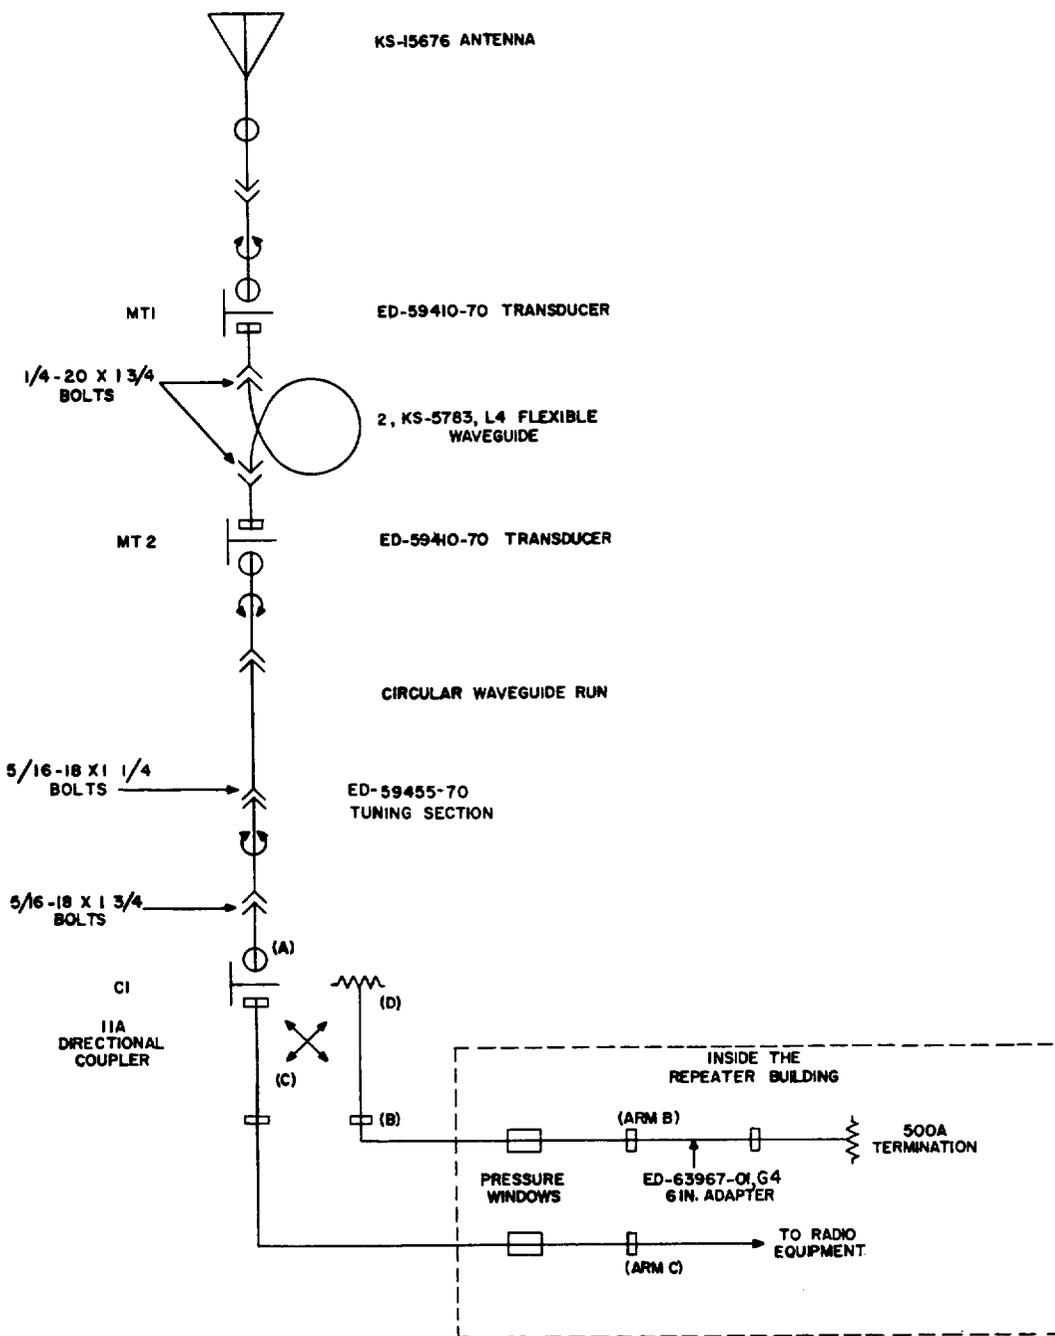

Fig. 1 - Waveguide Setup for Aligning Antennas Used with 2-Polarity Transmission
**2.01** The connection of the waveguide components and test assemblies required for orienting the antennas is shown in Fig. 1. The following paragraphs cover the installation of this equipment.
**2.02** At both stations, install the ED-59455-70 tuning section and the 11A directional coupler C1, shown in Fig. 1, as follows:
(1) Attach the ED-59455-70 tuning section, with the movable flange upward, to the base of the circular-waveguide run. Use eight 5/16-18 cap screws 1-1/4 inches long, together with the O ring gasket supplied with the tuning section, for this purpose. (Use a thick wafer here.)
(2) Loosen the nuts fastening the rotational restrainer to the tower, and then slide the restrainer down out of the way. (This restrainer, used to support the lower end of the 11A coupler, will be aligned in a later step.)
(3) Using eight 5/16-18 cap screws 1-1/2 inches long, loosely connect the 11A coupler C1 to the lower end of the tuning section. (Use a thin wafer here.)
(4) Slide the rotational restrainer to its normal position. **Do not** tighten the two 3/8-inch cap screws which fasten the restrainer plate to the bottom of the 11A coupler.
(5) Connect the waveguide test connections as shown in Fig. 1. Note that the test connections to arms B and C of the 11A coupler are made on the unpressurized side of the pressure window inside the repeater building;
- (1) Using eight 5/16-18 bolts 1-1/4 inches long, loosely connect MT2 to the circular-waveguide run.
- (2) Using 1/4-20 bolts 1-1/4 inches long, connect the two sections of KS-5783 flexible waveguide in tandem. Using 1/4-20 bolts 1-3/4 inches long, connect the assembly of the two KS-5783 flexible waveguides to MT1 and MT2, as shown in Fig. 1.
- (3) Using the P-38B665 wrench on the free ends of the bolts in the rectangular flange on the transducer MT2, rotate MT2 so that the wide face of the rectangular waveguide is parallel to the face of the antenna.
- (4) Tighten the bolts holding the transducer MT2 to the circular-waveguide run.
- (5) All waveguide test connections should now exist as shown in Fig. 1. At this point, the circular-waveguide run to the top of the tower is merely acting as a transmission line, with its polarities arbitrarily related to the face of the antenna.